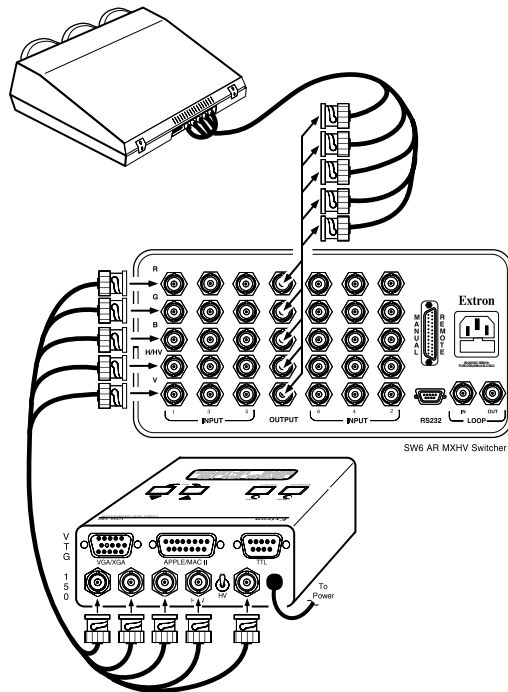

Figure 4-9A Using the VTG 150 to test a switcher.
- Connect it to the switcher's inputs to test if all the inputs are working properly and a signal passes through. (See fig. 4-9A.)